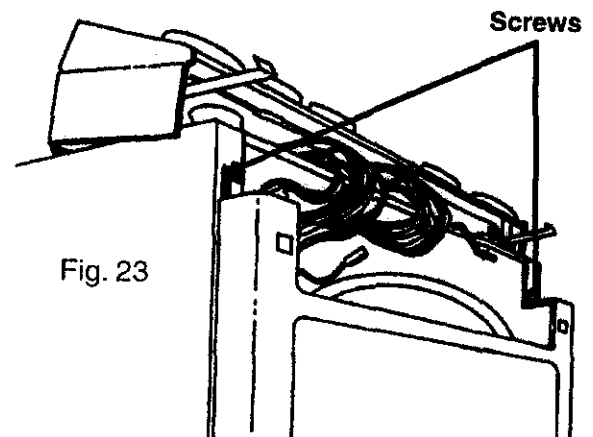

Fig. 23
4. Remove the Control Panel from the Front Panel and set it on top of the unit. (Fig. 23)